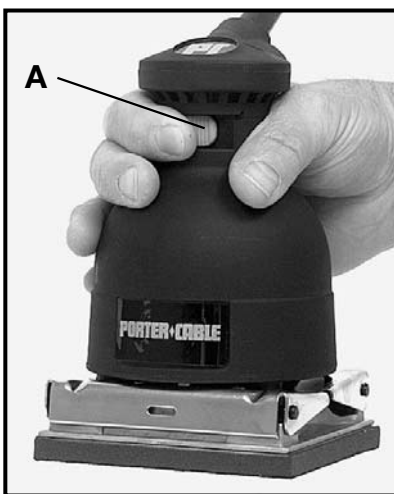

Fig. 3
1. **CAUTION:** Make sure switch (A), Fig. 3, is in "OFF" position.
4. While holding sander firmly and off of work surface, slide switch (A), Fig. 3, to the "ON" position.
6. When you are finished sanding, lift sander up off work and slide switch (A), Fig. 3, to the "OFF" position to stop sander.
The Porter-Cable Finishing Sander has been designed for one-hand operation (Fig. 3). Because it is light in weight, vibration-free and perfectly balanced, the sander can be easily guided over the work surface with one hand. The normal weight of the machine is sufficient for efficient sanding. Do not put additional pressure on the machine. This would only slow down the speed of the pad, reducing the sanding efficiency and put an additional burden on the motor. In addition, it might cause the sander to jump on the work. Let the sander do the work.